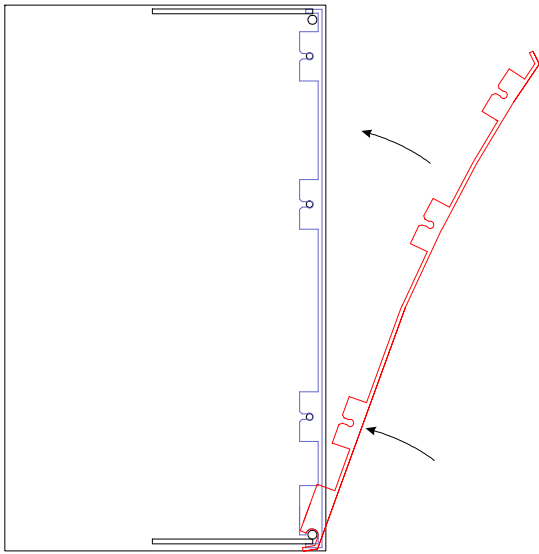

Figure 3 - Refitting the Lid
- 3 Ensuring that the bottom cover is in place, hold the front cover at an approximately 30° angle to the stack, and clip the bottom hooks over the round crossbar at the bottom of the stack, trapping the bottom cover between the bar and the lip at the bottom of the front cover. Rotate the cover flush with the front of the stack and, starting with the bottom pair, use the thumbs to press home the clips onto the nylon spigots (figure 3).